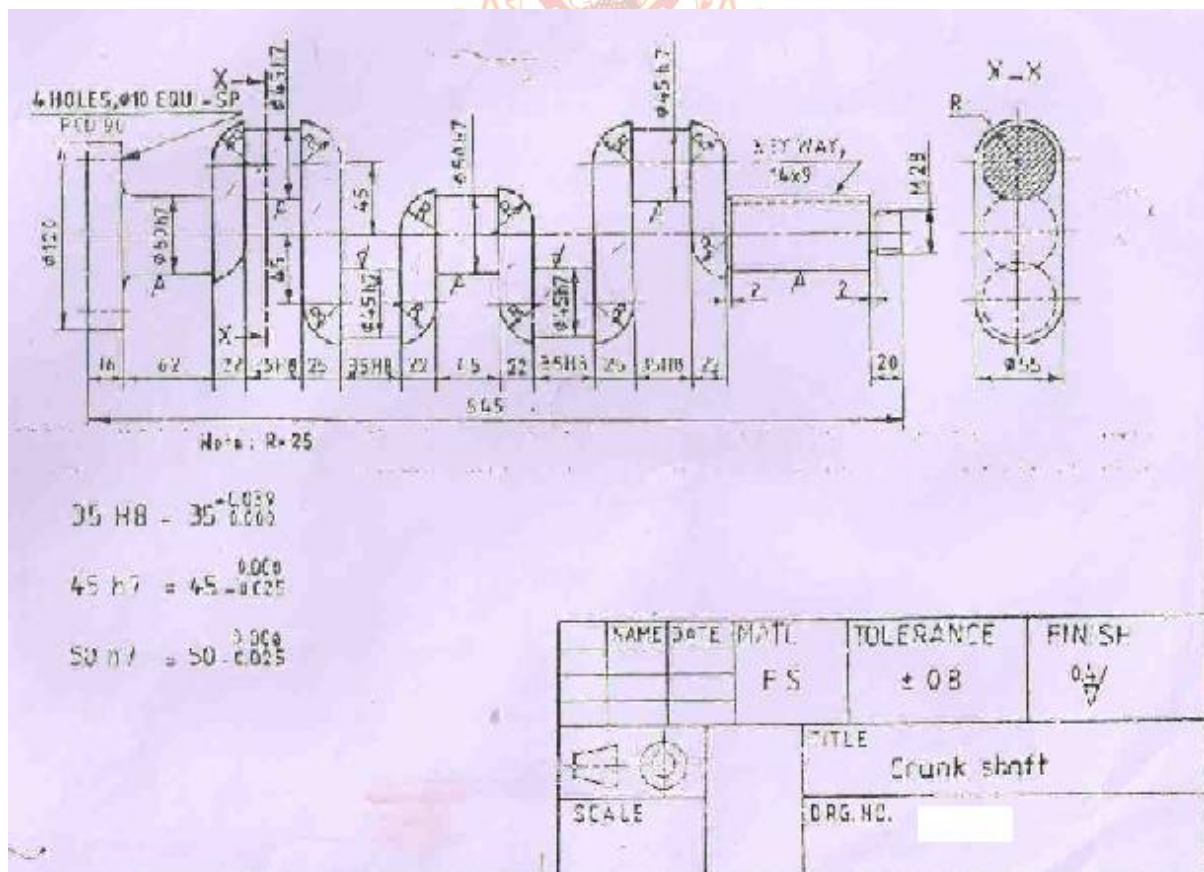

Figure 8 Component details of crank shaft
2. Draw the orthographic projection of the crank shaft given in the figure 8 using the modelling software and mention the dimensions